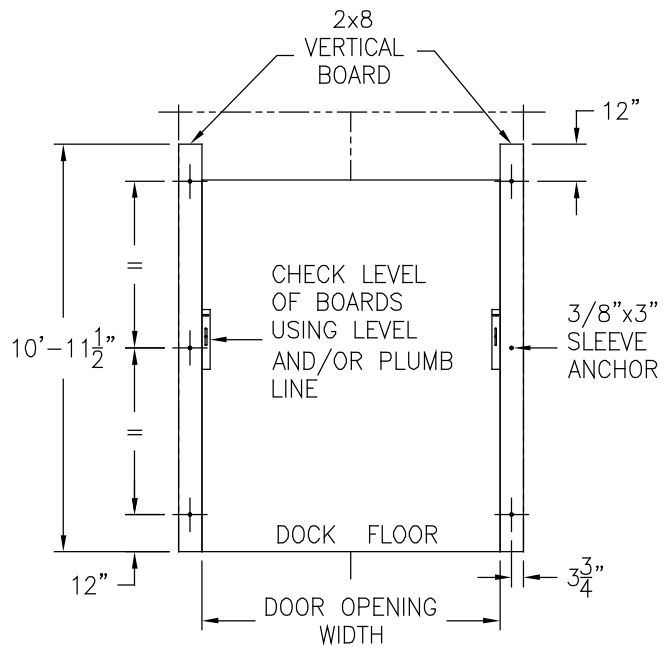

FIG. 3
c. Attach Vertical Channel to wall (Fig 3).